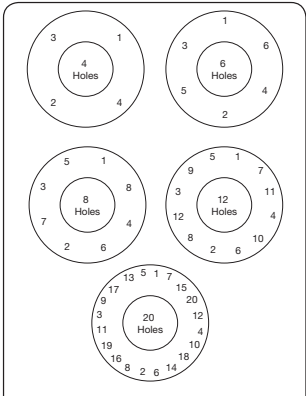

Figure 40: Bolt Tightening Patterns
17. Torque to the values found in Table 11 using the torque patterns in Figure 40 and Table 12.